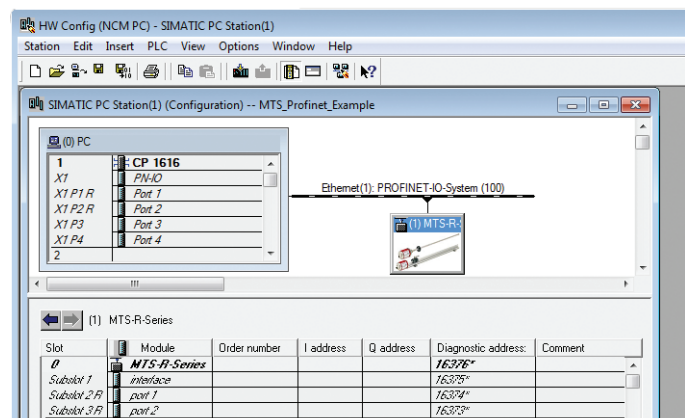

Fig. 36: Add sensor to the network (source: Siemens)
- While keeping the left mouse key pressed, draw the MTS sensor with MTS profile from the directory into the network (dashed line) and release the left mouse key. The sensor has been added to the network (Fig. 36).